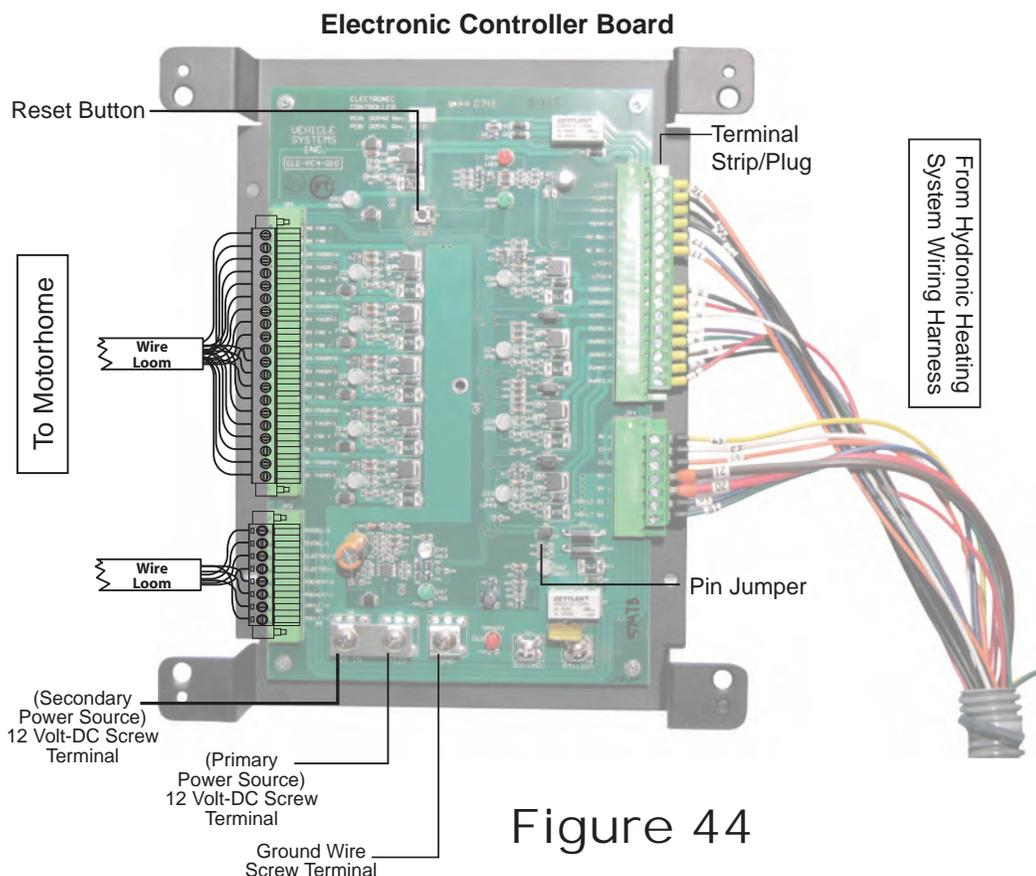

Figure 44
Each heating zone “FAN” circuit can supply up to 2.0 Amps of direct current. This 12 Volt-DC power source allows for multiple Cozy III heat exchangers to be wired “in-parallel”. Reference Figure 44 and Appendix A.
All switch connections are to be wired directly to the Aqua-Hot’s interior switch panel. Reference Figures 44 and 44 and Appendix A. Both the “IND-LT (+) B3” and the “IND-LT(-) B6” connections on the electronic controller are reserved electrically **ONLY** for the diesel-burner switch indicator light connections.
1. Attach wiring harness connectors to the electronic controller. Reference Figures 44 and 45 and Appendix A.